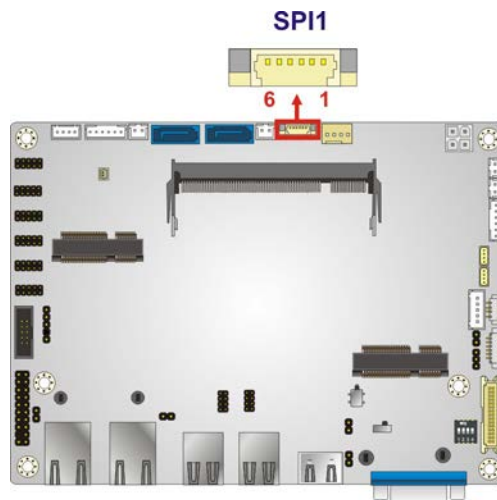

Figure 3-26: SPI Flash Connector Location
- CN Location:** See Figure 3-26